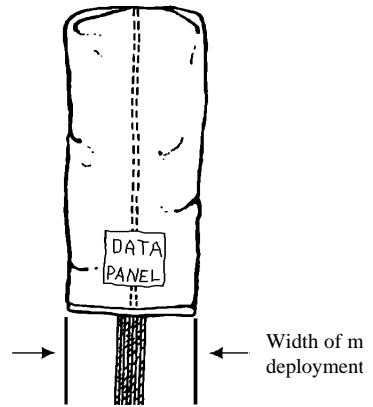

Figure 10
Step 11.) Kneel on the trailing edge of the center cell of the canopy and center the middle seam of the center cell in the middle of the canopy bundle. “Cocoon” fold the bundle by spreading the center cell of the canopy to the approximate width of the main deployment bag and tuck the outer edges of the material under the bundle. (See Figure 10.)